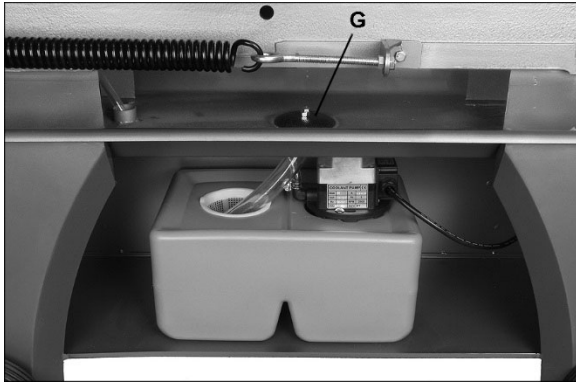

Figure 6-10: coolant tank
9. Place filter assembly (G, Figure 6-10) over drain hole.
3. Make sure coolant hose is properly connected at each end, and return hose is connected to drain hole and positioned in strainer cup, as shown in Figure 6-10.